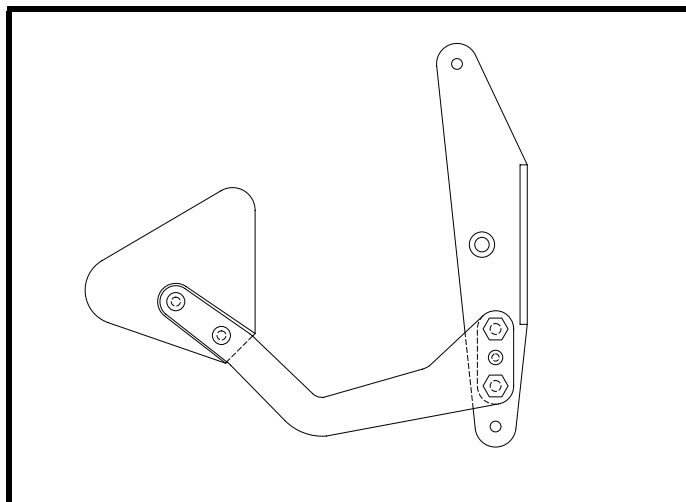

Figure 11
- ❑ As stated above, drill the lower hole through P/N 750 with a 5/32"Ø drill, ream up to 3/16"Ø and install the bolt. See Figure 11.